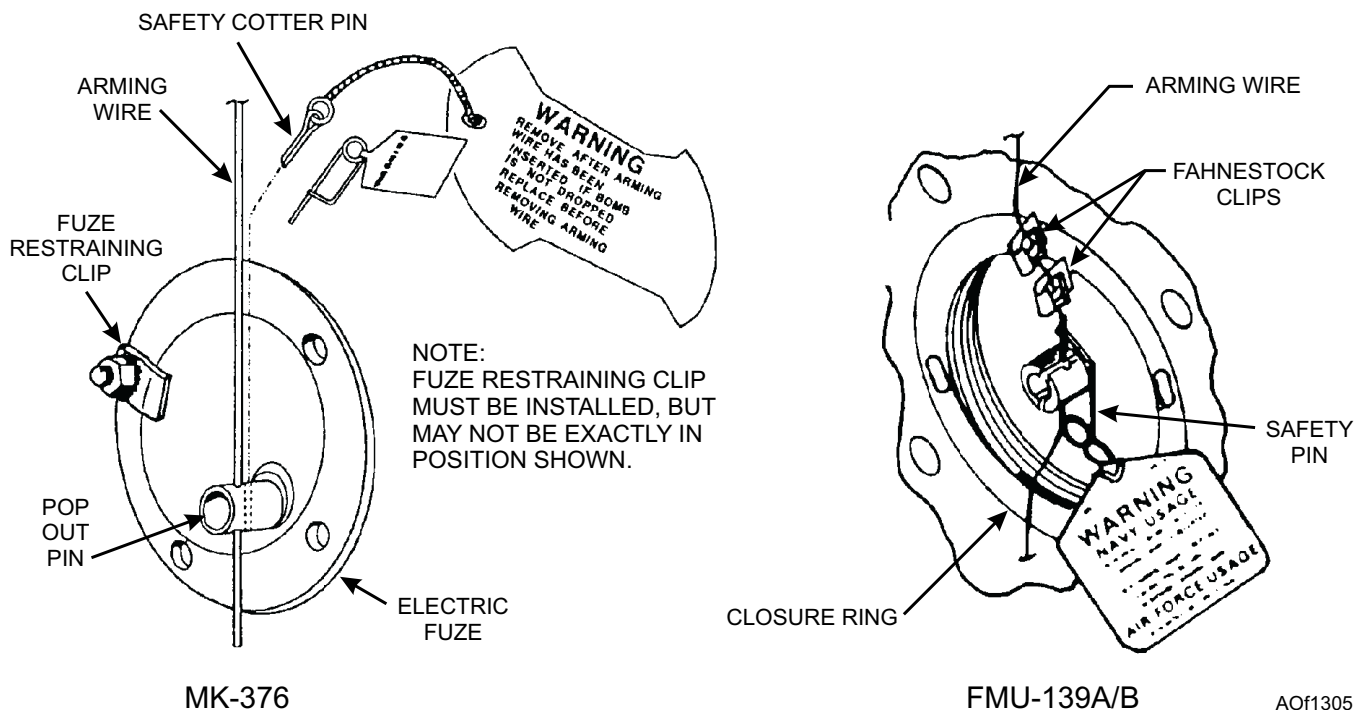

Figure 13-5.—Mk 376 and FMU-139 series electric/electronic fuze arming wire installation.
The Mk 376/FMU-139 series electric and electronic tail fuzes are currently being used in the Navy. The following are general procedures you should follow when working with these fuzes. Refer to figure 13-5 for arming wire installation.
10. Thread arming wire through the hole in top of the fin, and then through the fuze pop-out pin (fig. 13-5) and through the hole in bottom of fin (Mk 376).
12. Thread arming wire through two Fahnstock clips and the bottom of the fin; vertically align arming wire with arming wire slots located on gag rod arming wire housing (FMU-139A/B) (fig. 13-5).